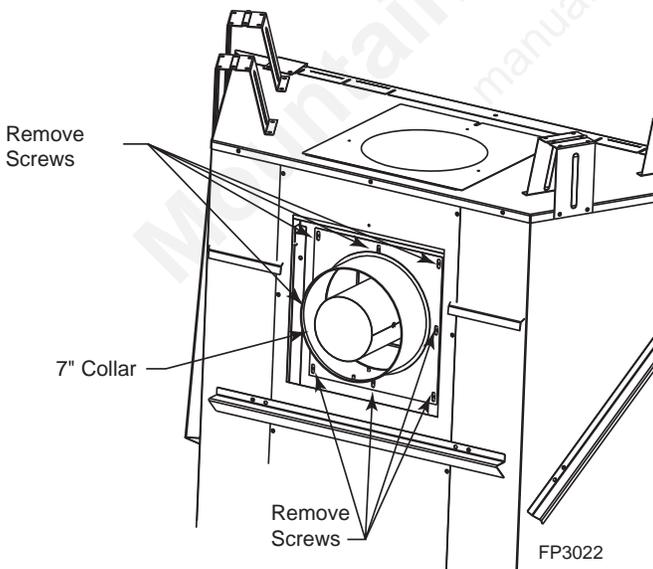

Figure 9 – Remove 7" Collar and Gasket
2. Remove the plate with the 7" collar and gasket by removing eight (8) screws. Set aside. *Figure 9*